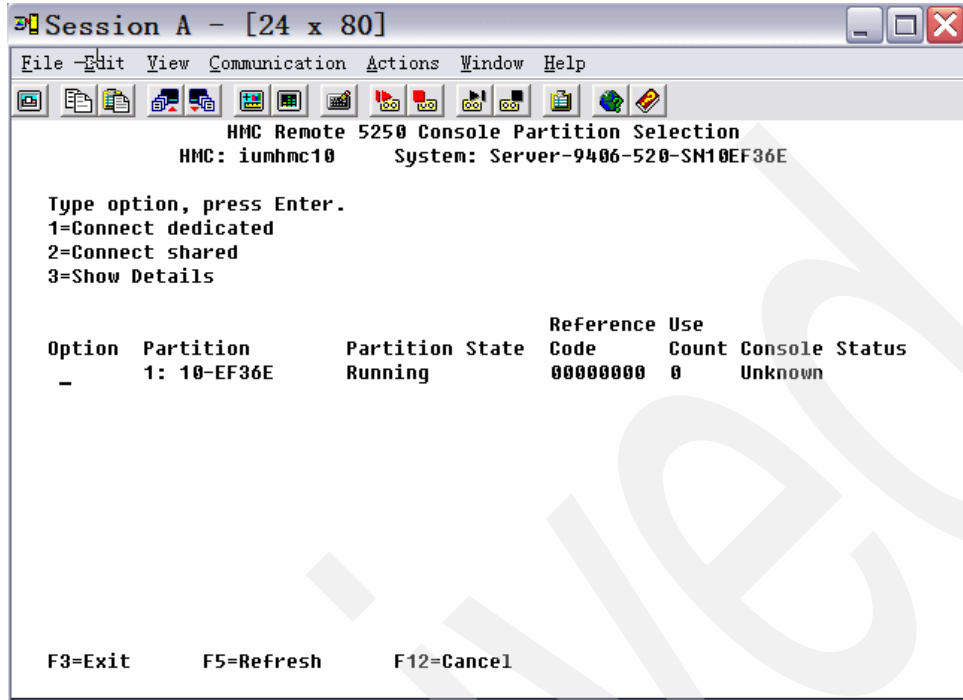

Figure 2-9 Remote 5250 console- connect modes
6. When the window in Figure 2-9 prompts you, select connect modes and press Enter.